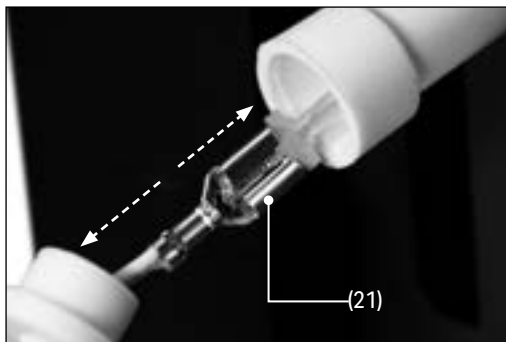

Fig. 14
4. Open the insulators and move both parts away from each other to expose the spade connector (21) (Fig.14).